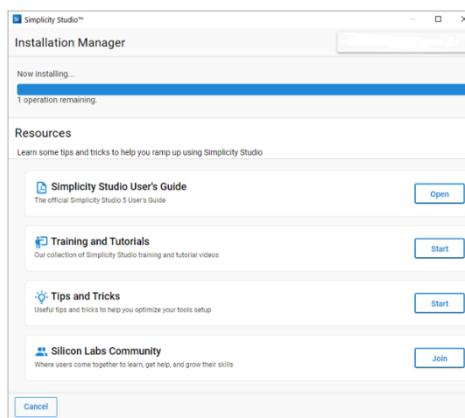

Figure 3.6
- 5) It may take some time to complete the download according to different network environments, as shown in figure 3.6